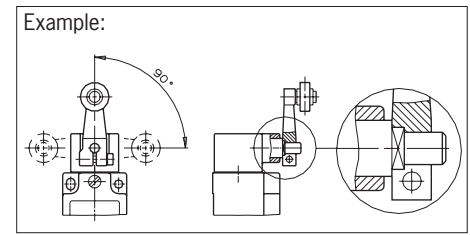

Figure 2: Vertical actuator adjustment
- ▶ The actuator (lever arm) must be positively mounted to the actuating shaft. The polygon drives on the actuator and actuating shaft must engage with each other (see Figure 2).